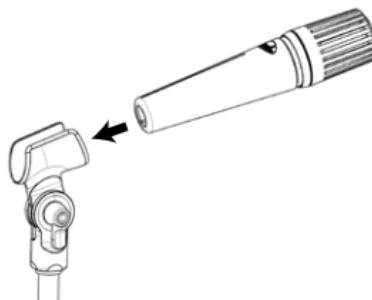

fig. 7
2. Install the microphone into the clip according to the scheme (fig. 7)